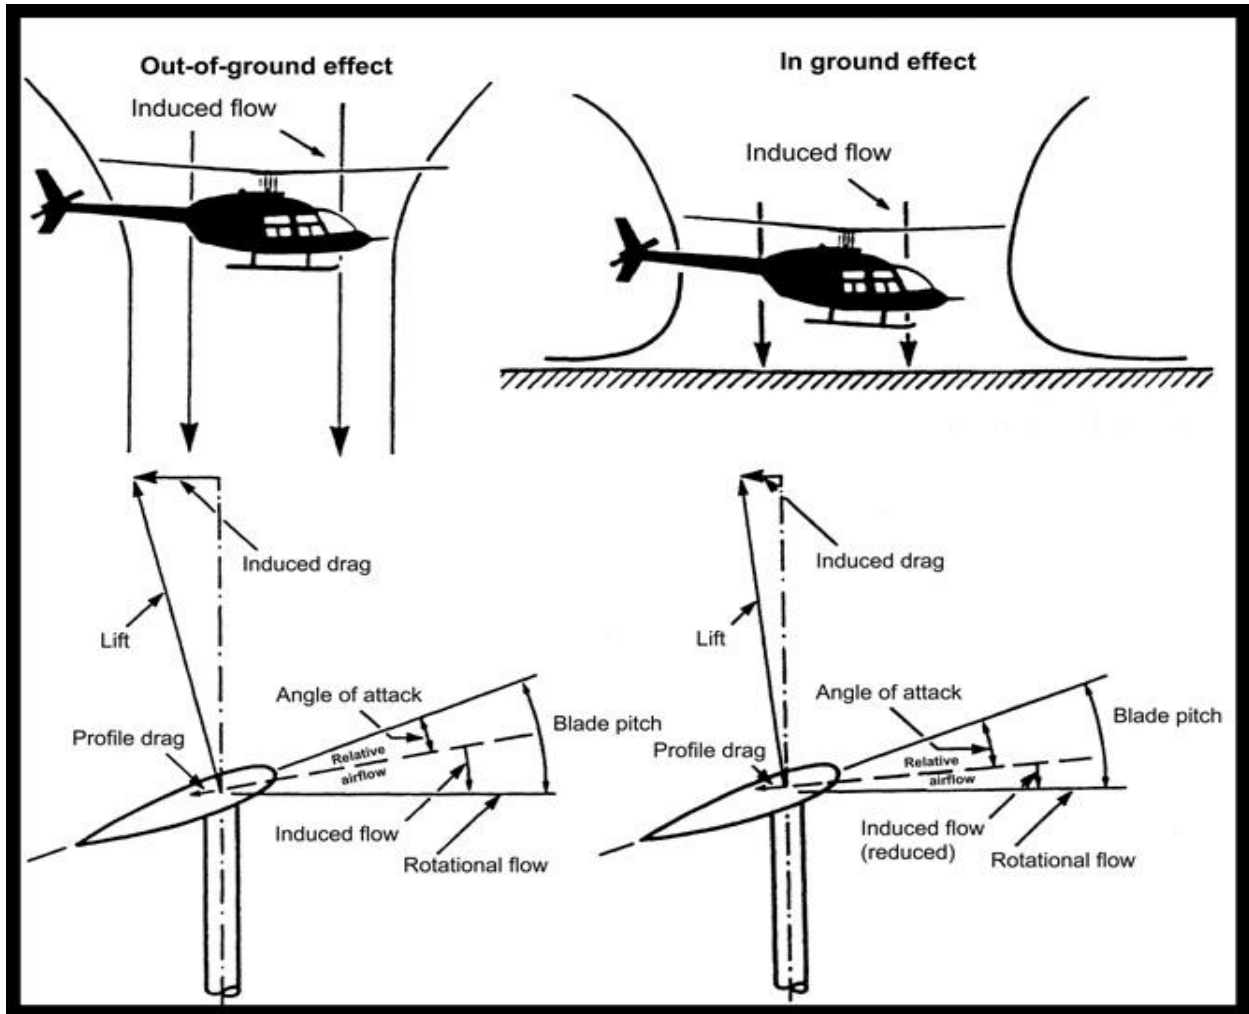

Figure 8-1: Ground Effect
1. ground effect (Fig 8-1); and